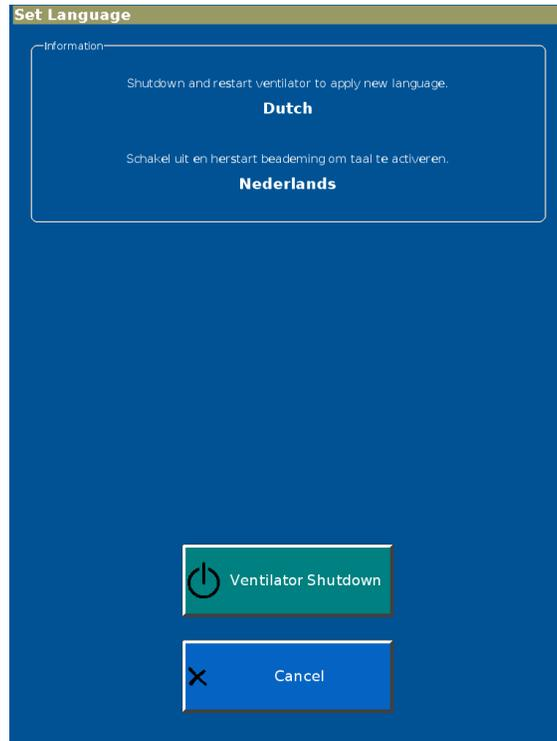

Figure E-4: Set Language screen 2
3. A second Set Language screen is displayed (Figure E-4). Select Ventilator Shutdown to apply the change. The change is effective after you restart the ventilator.